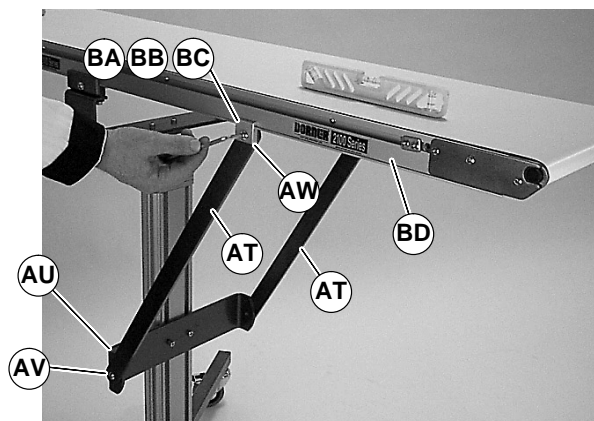
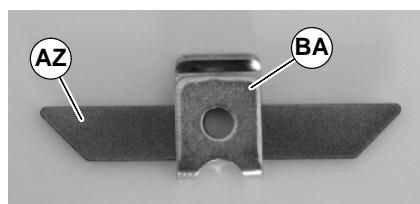

Figure 37
Figure 38
4. Attach braces (AT of Figure 37) to brace bracket (AU) with M8 screw (AV).
- 5A. For 2100 and 2200 conveyors: Attach braces (AT) to conveyor rails (BD) with 2100/2200 clips (BB) and M8 screws (AW).
- 5B. For 3100 and LPZ conveyors: Attach braces (AT) to conveyor rails (BD) with 3100/LPZ clips (BC) and M8 screws (AW).
- 5C. For 6100 conveyors: Insert belt guards (AZ of Figure 38) into 6100 clips (BA). Attach braces (AT of Figure 37) to conveyor rails (BD) with 6100 clips (BA) and M8 screws (AW).
6. Tighten M8 screws (AV & AW of Figure 37) to 80 in-lb (9 Nm).